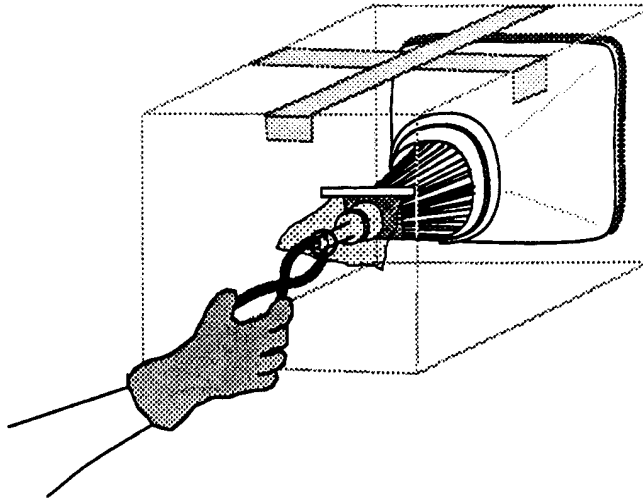

FIGURE 9
6. Tape the piece of cloth or paper onto the box (Figure 9, #1) so that it forms a veil over the opening (Figure 9, #2) but allows your hand access to the tip of the CRT. The veil's purpose is to catch the bits of glass that may fly during the following step.